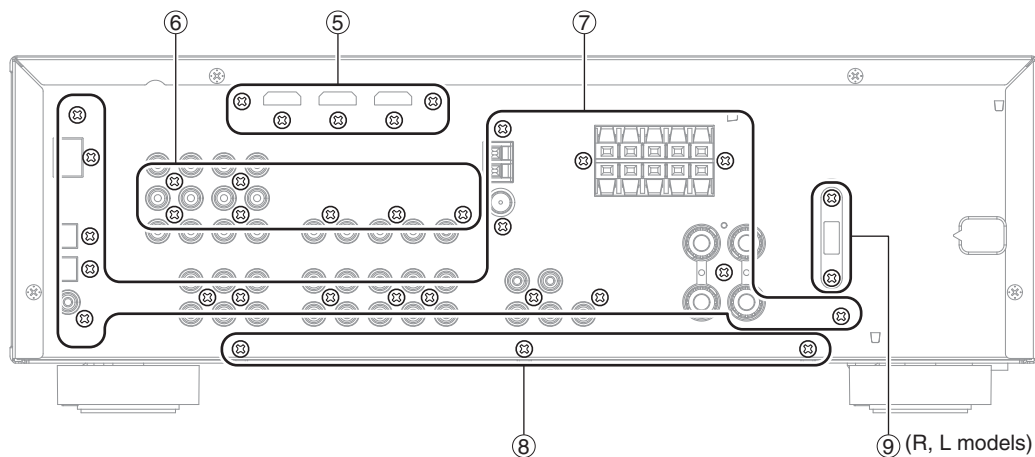

Fig. 3
- Remove 5 screws (⑤). (Fig. 3)
- Remove 7 screws (⑥). (Fig. 3)
- Remove 18 screws (⑦), 3 screws (⑧) and 2 screws (⑨) (R, L models). (Fig. 3)
- b. Remove 3 screws (⑧). (Fig. 3)